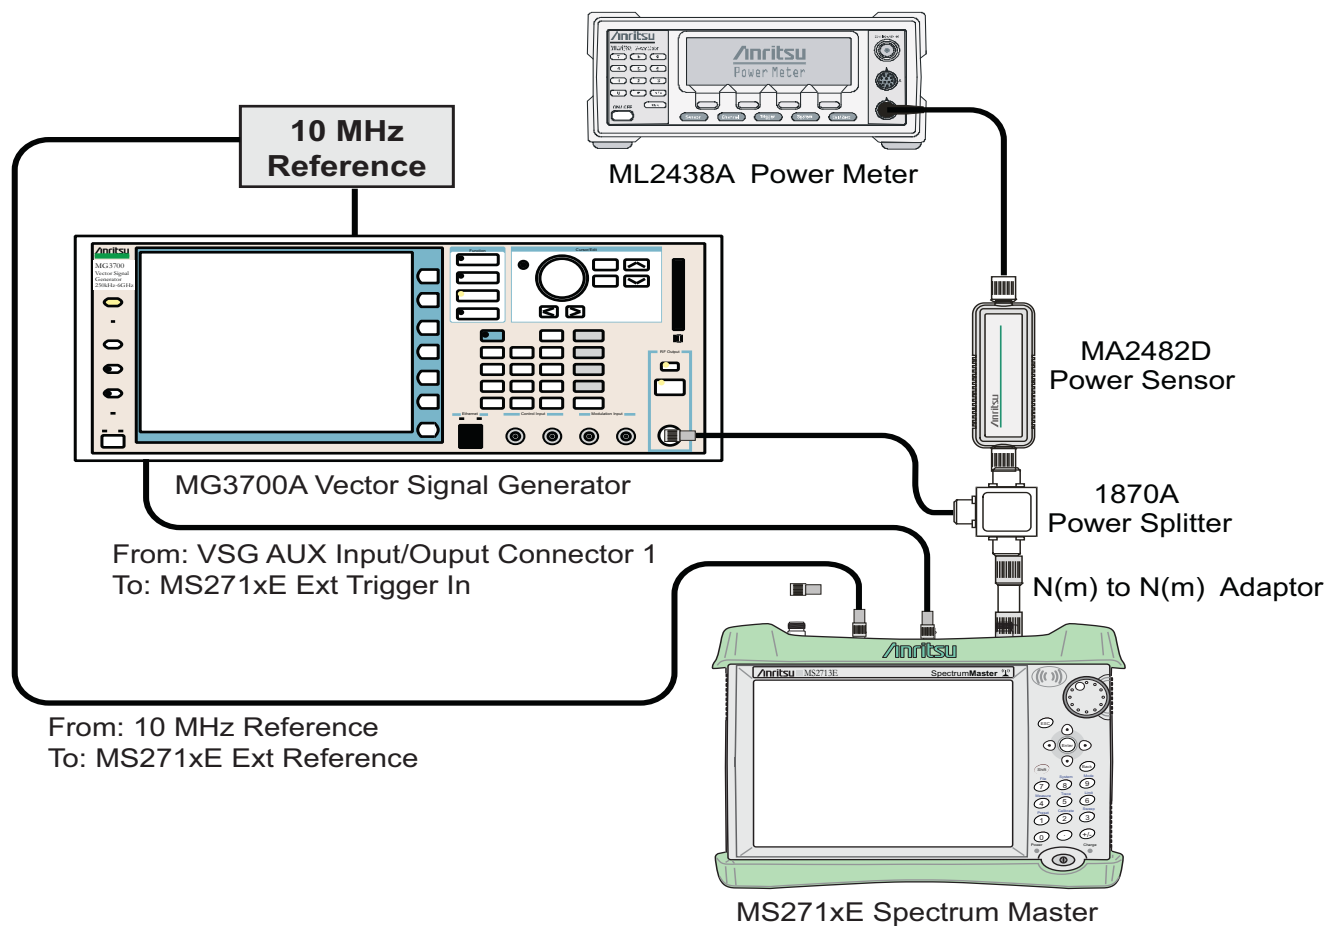

Figure 3-9. CDMA Signal Analyzer Option Verification
2. Connect the equipment as shown in Figure 3-9.
4. Set the MS271xE mode to CDMA Signal Analyzer. Press **Shift** and press **Preset** (1) to preset the MS271xE.
1. Confirm that the equipment settings are unchanged from the previous test. Refer to Figure 3-9 on page 3-35.